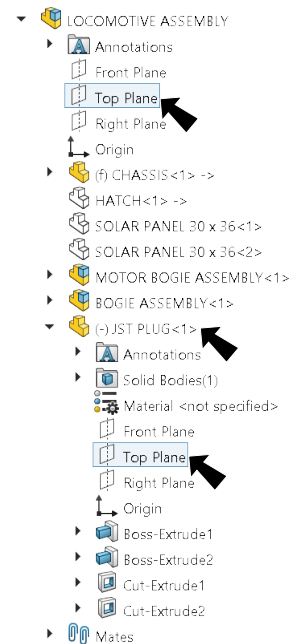

Fig. 26
Step 2. In the flyout Feature Manager design tree, expand **JST Plug** and click **Top Plane** , **Fig. 26**.